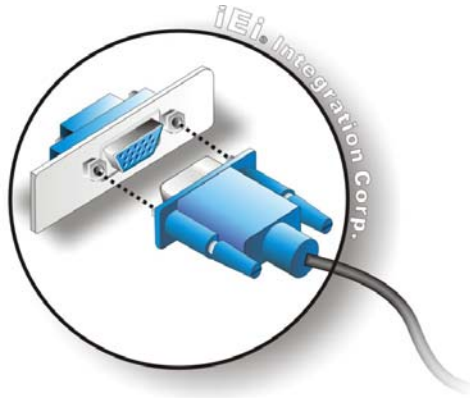

Figure 3-41: VGA Connector
- Step 3:** Insert the VGA connector. Once the connectors are properly aligned with the insert the male connector from the VGA screen into the female connector on the PPC-5152-D525. See **Figure 3-41**.